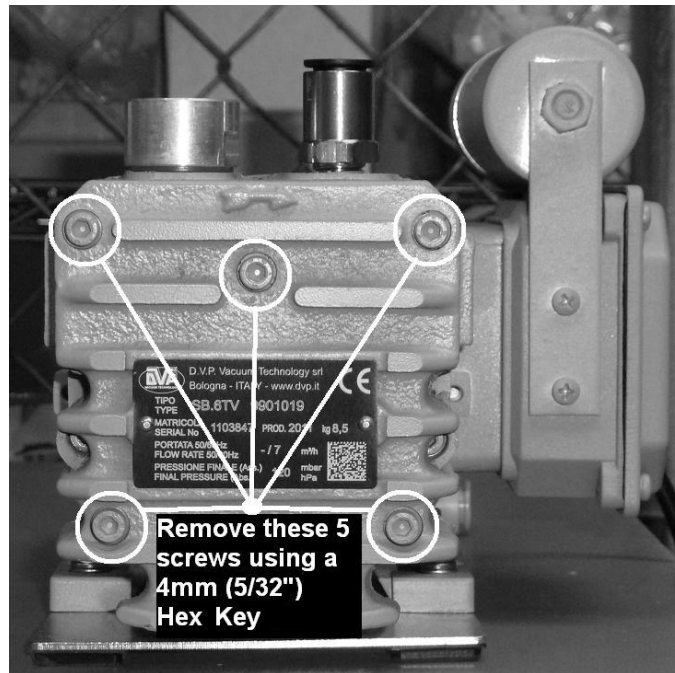

Figure 1
1. Take a 4mm Hex Key and remove the 5 screws that hold the pump cover onto the front of the pump (See Figure 1). Remove the pump cover.